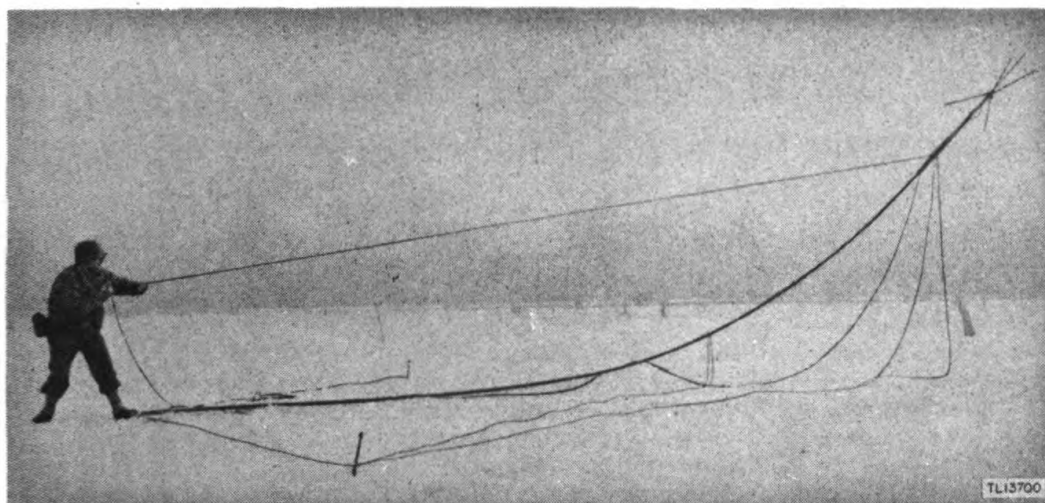

Figure 23. Antenna Assembly AS-110/TRC-7, erection by one man.
(1) Hold the third set of guy ropes, which are through only the stake strap, in your left hand. With your right hand, grasp the upper guy. Slowly and steadily pull the antenna toward you until it snaps upward into a perpendicular position (figs. 23 and 24).